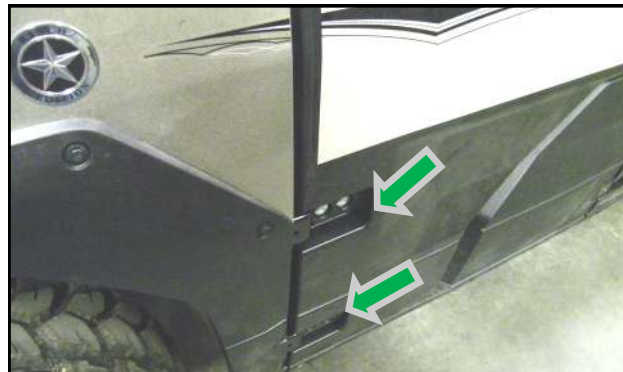

Fig. 1.1 Factory Doors (2)
1.1 Per figure 1.1, remove left and right half doors.